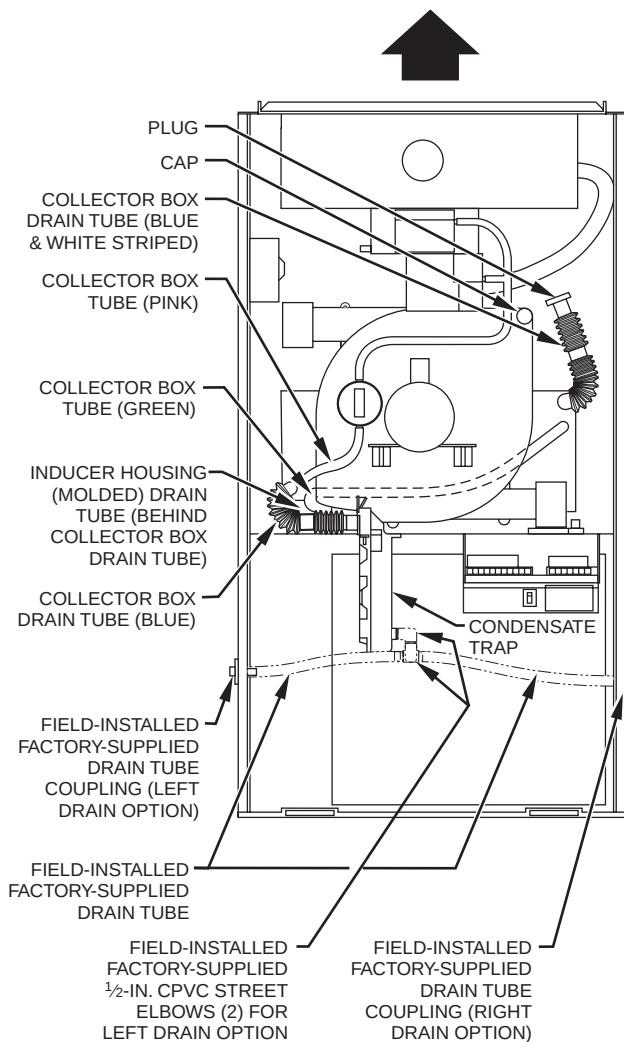

Fig. 6—Factory-Shipped Upflow Tube Configuration (Shown With Blower Access Panel Removed)
Some assembly and modifications are required for furnaces installed in any of the 4 applications shown in Fig. 3. All drain and pressure tubes are connected as shown in Fig. 6. See appropriate application instructions for these procedures.
NOTE: See Fig. 6 or tube routing label on main furnace door to confirm location of these tubes.
- e. Cement 2 factory-supplied 1/2-in. street CPVC elbows to the rigid drain tube connection on the condensate trap. (See Fig. 6.) These elbows must be cemented together and cemented to condensate trap drain connection.
NOTE: See Fig. 6 or 7 or tube routing label on main furnace door to check for proper connections.